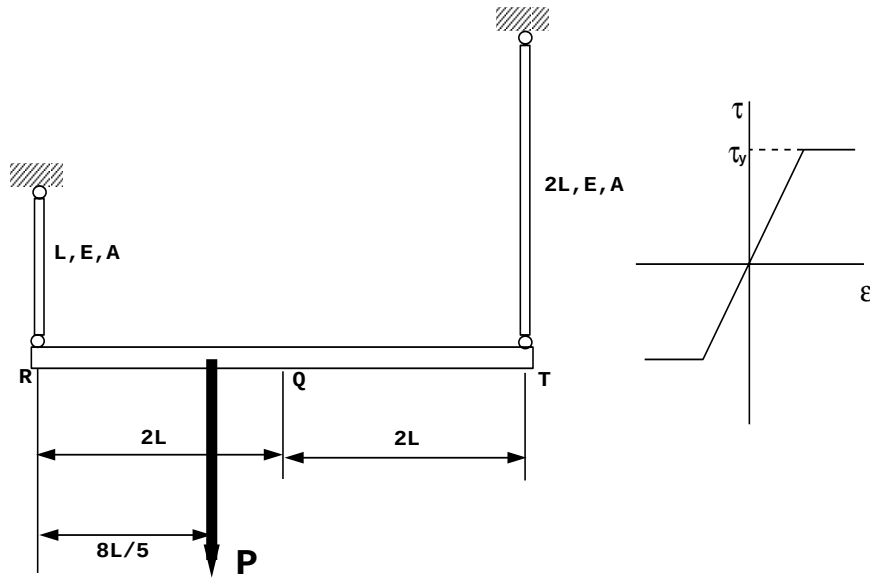

Figure 6: Problem 4
4. (25pts) A rigid beam RT is supported by two steel rods as shown in Figure 6. A point force P is acting downward at the position $x = \frac{8}{5}L$. The bars are idealized to be linearly-elastic, perfectly plastic as shown in Figure 6. The midpoint Q is deflected $\frac{7\tau_y L}{3E}$ downwards by the slow application of the force P , after which the force is slowly removed. (Hint: Remember that when a material becomes plastic, no increase of force is required to get additional deformation. Also when the midpoint is deflected $\frac{7\tau_y L}{3E}$ it is **NOT** necessary that both rods are plastic.)